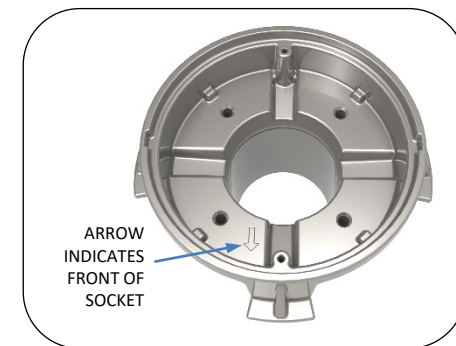
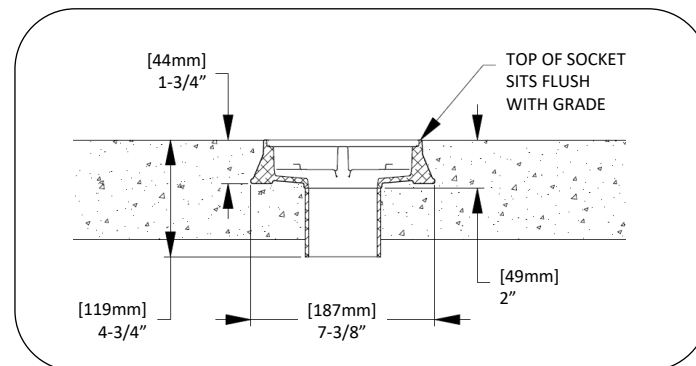

Fig. 3 – embed socket detail
Fig. 4 – socket in new concrete
2. Set socket in place. Verify that socket is in the correct orientation. See Fig. 3 and Fig. 4. Seal bottom of socket tube around conduit to prevent concrete from entering the socket. Top of socket should be flush with top of concrete. Concrete should be cured before proceeding with steps 3-7.